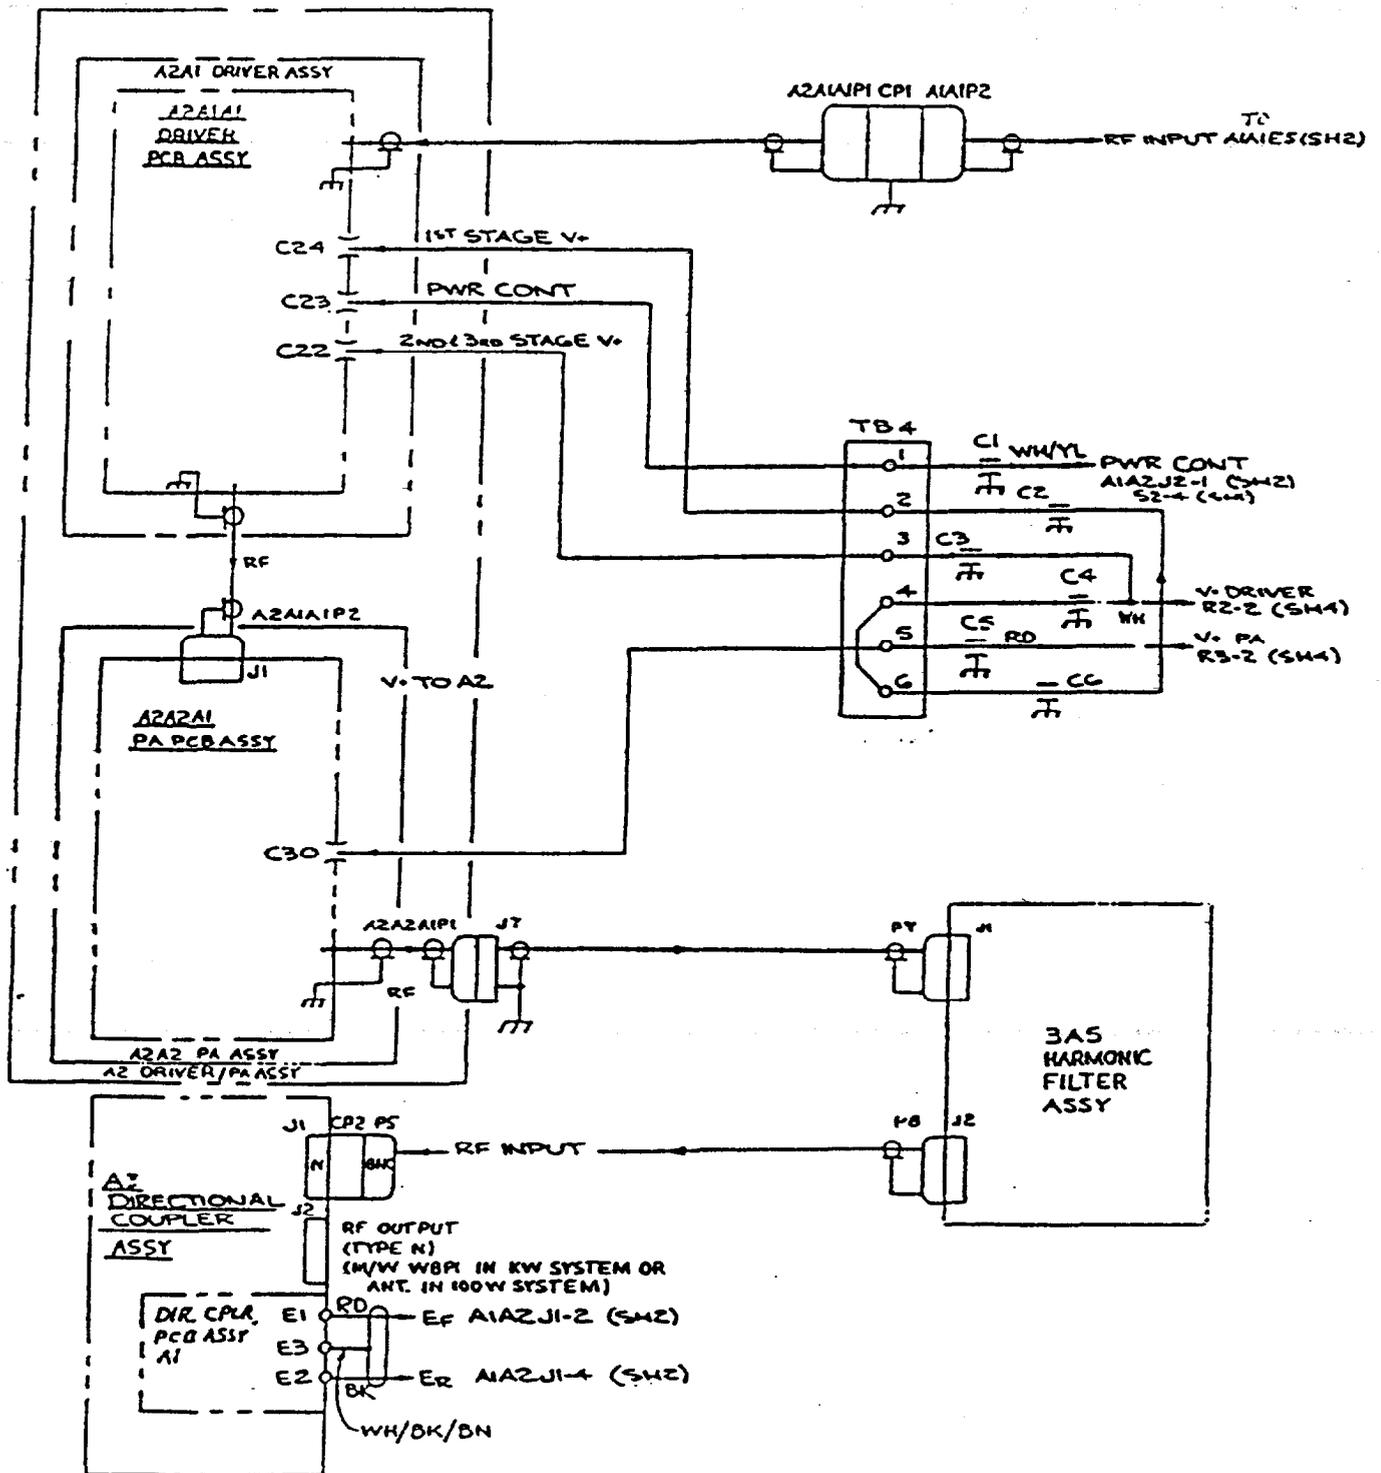

FIGURE 2
6. Be careful to mark each wire as they are removed. Unsolder the RED wire (A1A2J1-2) from E1 on A3. Unsolder the BLACK wire (A1A2J1-4) from E2 on A3. Unsolder the WHITE/BK/BN wire (gnd) from E3 (reference Figure 2).